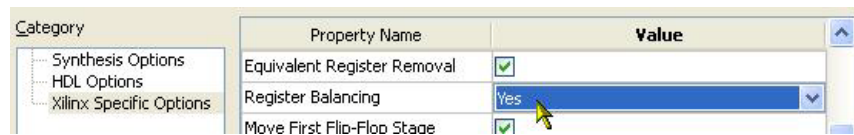

Figure 8-2: Select Register Balancing
6. Set the **Register Balancing** option to **Yes** (see Figure 8-2).